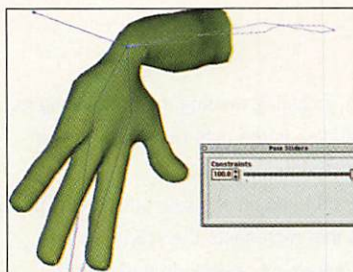

FIGURE 4. The wrist tested in an Action. Notice that the wrist is both bent and twisted, and that the twist spreads down the arm.
To test this setup, make a new Action and bring up the Pose Slider window. A slider will appear for the pose you just created. Set the slider to 100 percent to apply the constraints. (At this point, no constraints will appear in the Project Work Space, which is a File Manager-type window that lists objects, groups, constraints, and so on.) Use the Lock tool on the hand bone to keep it from trying to calculate inverse kinematics (IK), then rotate it all around. Make sure to rotate it along the roll axis to check the twisting effect (Figure 4).